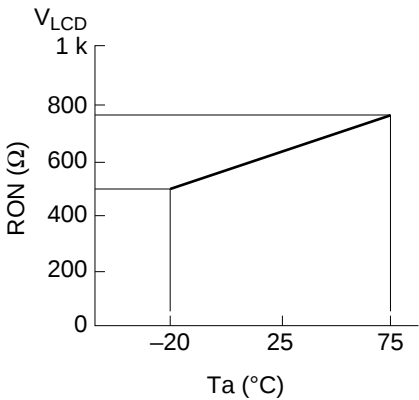

Figure 4 Relation between R_{ON} and T_a
- $T_a = 25^{\circ}C$ Note that R_{ON} depends on T_a ($^{\circ}C$) (figure 4).